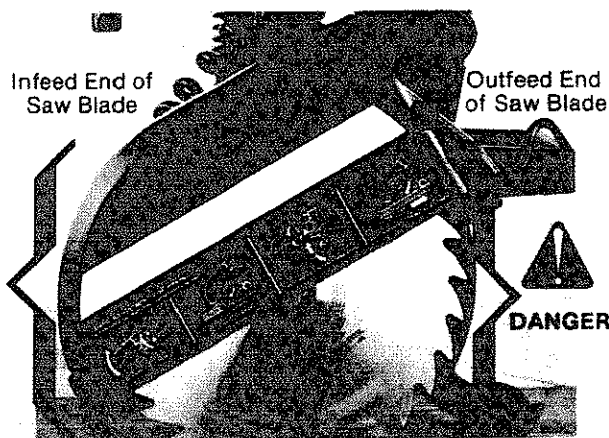

Fig. 101 - Infeed and Outfeed Ends of Saw Blade
Wrong way feed is feeding the workpiece into the end of the blade with pawls, the outfeed end (Fig. 101) There are two things that can happen if you feed the workpiece into the outfeed end of the saw blade:
4. Go to the in-feed end of the saw blade. Figure 101